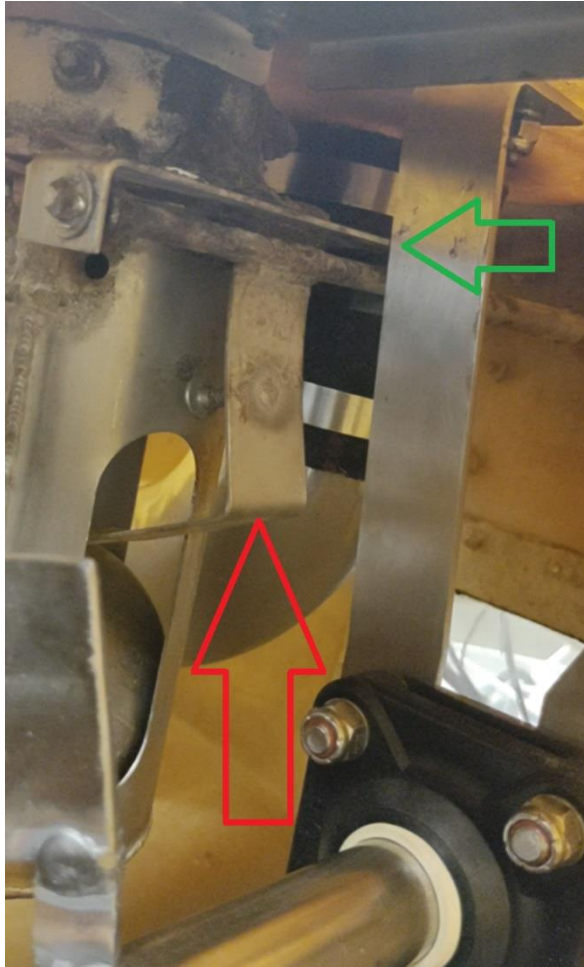

Figure 2
37. Once Roller Latch Assembly is positioned. Drill (6) #9 holes for Latch housing and Latch Housing Doubler plate. Two of the holes are drilled from doubler plate up. (NOTE: AT-400 only has 4 mount holes all are drilled from outside)
40. Drill (2) ¼" holes in the hopper door, 3 Inches aft of the front edge 1" right and left of center, Install Door Stop Bumper with included hardware and seal with Hopper Sealant. Not done on AT-400 See drawing 6004-0-3
- a. Air Tractor AT-502, 602, & 802: Support tends to be as far right as possible till it touches the vent ball hold down frame (green arrow Figure 2), and just aft of the tab that holds the vent ball down (red arrow Figure 2). See Drawing 6004-0-3 & Figure 2.